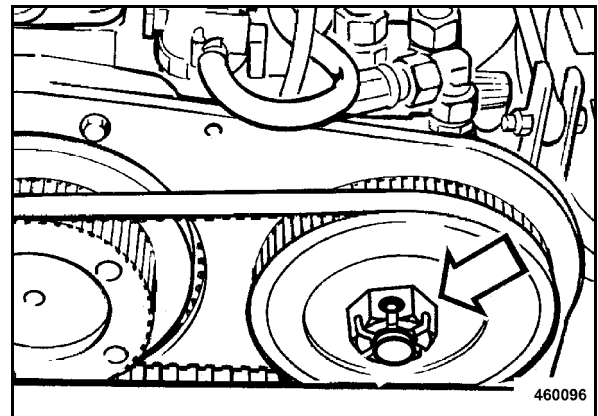

Fig. 131
- Pull out the cotter pin and unscrew the castle nut (Fig. 131) from the toothed belt pulley on the hydraulic pump.